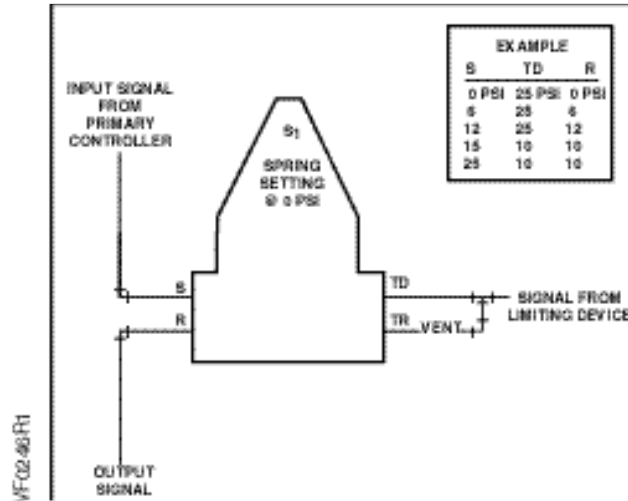

Figure 7. Direct Acting (DA) Limit Control.
- DA or RA limit control (See Figures 7 and 8).
Variable pressure signal from primary controller will pass directly to relay output as long as an equal or higher pressure is available from the limit control. Spring S-1 can be adjusted to allow a minimum output which will not be under control of the limiting device (Figure 7).